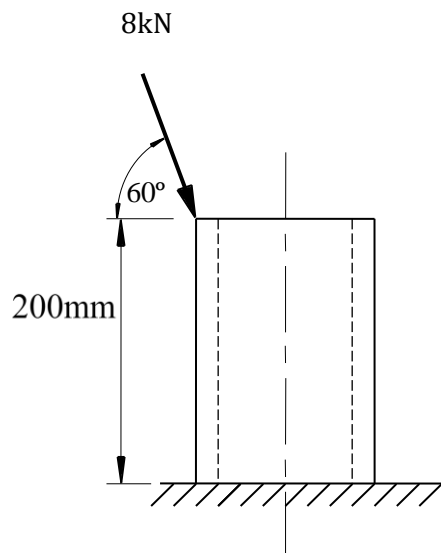

Fig Q6
- (a) the length of the spring after the mass is applied; (4)
- (b) the orbital radius of the mass; (6)
- (c) the linear velocity of the mass. (6)
6. A short vertical hollow cylindrical column, 200 mm high and fixed at the base, is 120 mm outside diameter and 90 mm inside diameter. It carries a load of 8 kN as shown in Fig Q6.